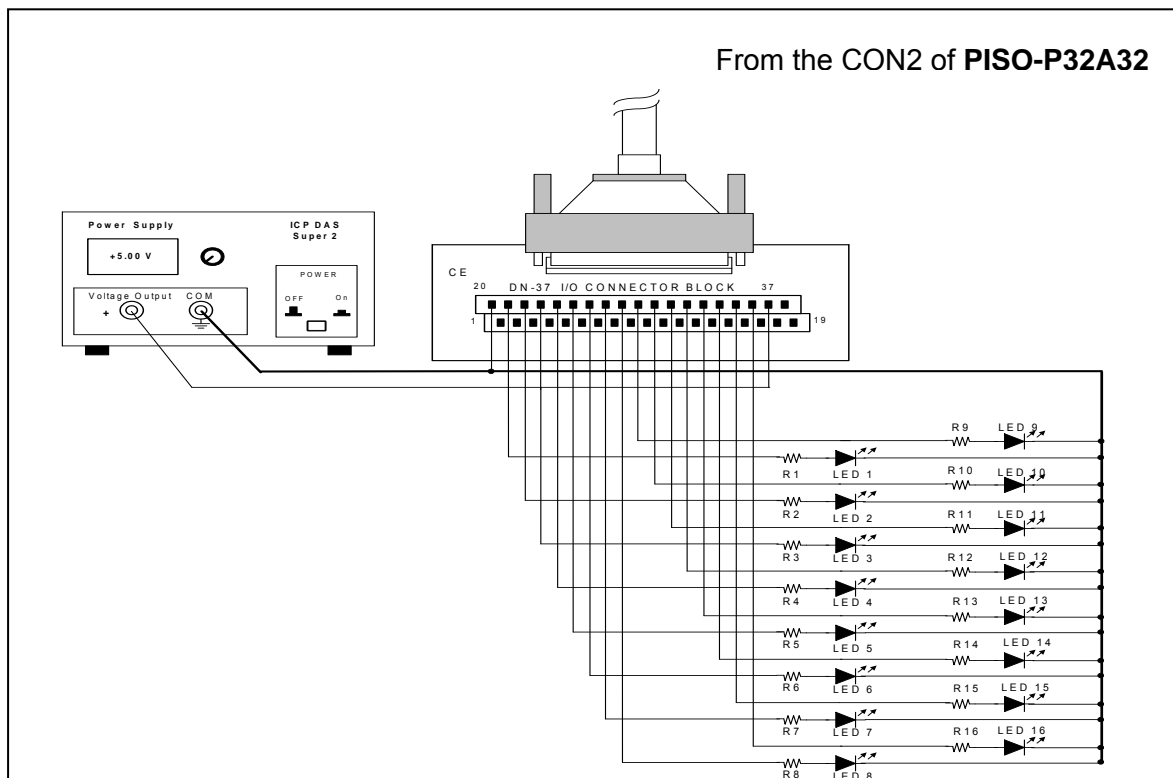

Figure 4-1-5. The circuit diagram of external device 2 for the digital outputs of PISO-P32A32/P32A32-5V/P32A32U
- Figure 4-1-5(PISO-P32A32) shows the circuit diagram of external device 2